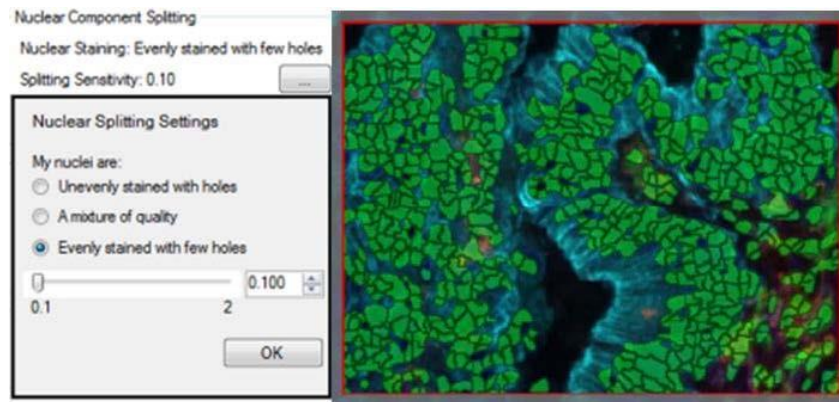

FIGURE G.7. Slider Left - Lower Values.
- ii. Moving the slider left (lower values) increases the amount of splitting. (See Figure G.7.)